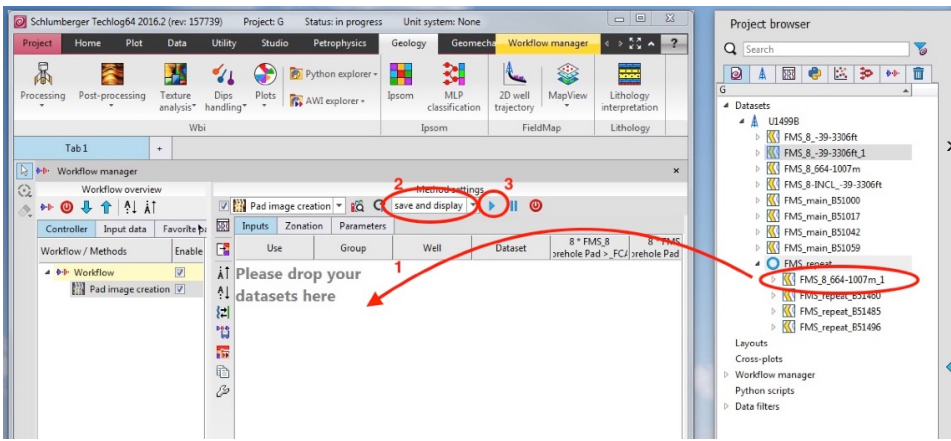
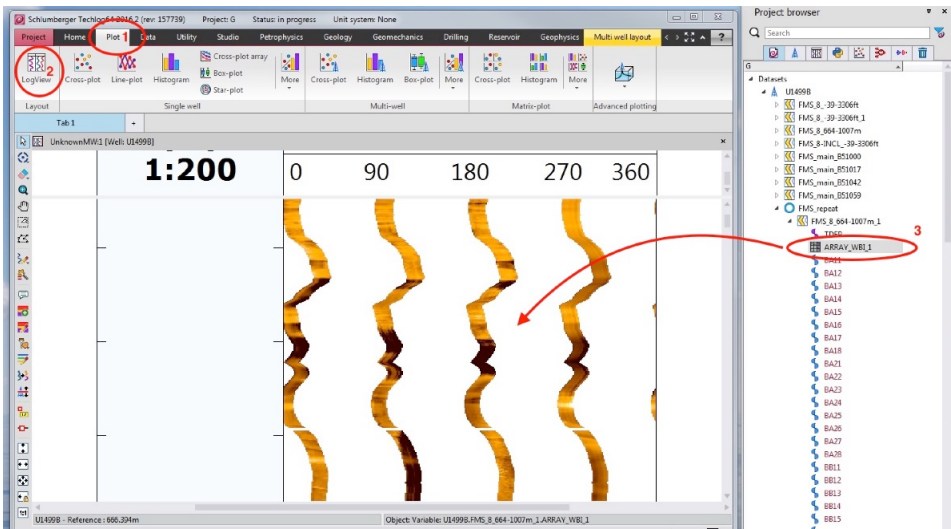

Figure 6: Workflow manager window showing the Pad image creation method.
Figure 8: FMS image plot in a Logview window.
3. In the new panel that appears in the main Techlog window (Fig. 6), there is a sign saying "Please drop your datasets here" - just drag your repeat pass dataset (i.e. FMS\_8\_664-1007m\_1 in the example below).
- Back in the Workflow manager (Fig. 6), drag-and-drop the dataset into the main panel. Make sure that "save and display" is selected, and click on the blue arrow/play button. This should complete the processing and display the FMS image in a Logview window. This window may be cluttered with the various steps of the processing, so you can also open a new logview window from the 'Plot' menu, and drop your newly created FMS image in it (Fig. 8).